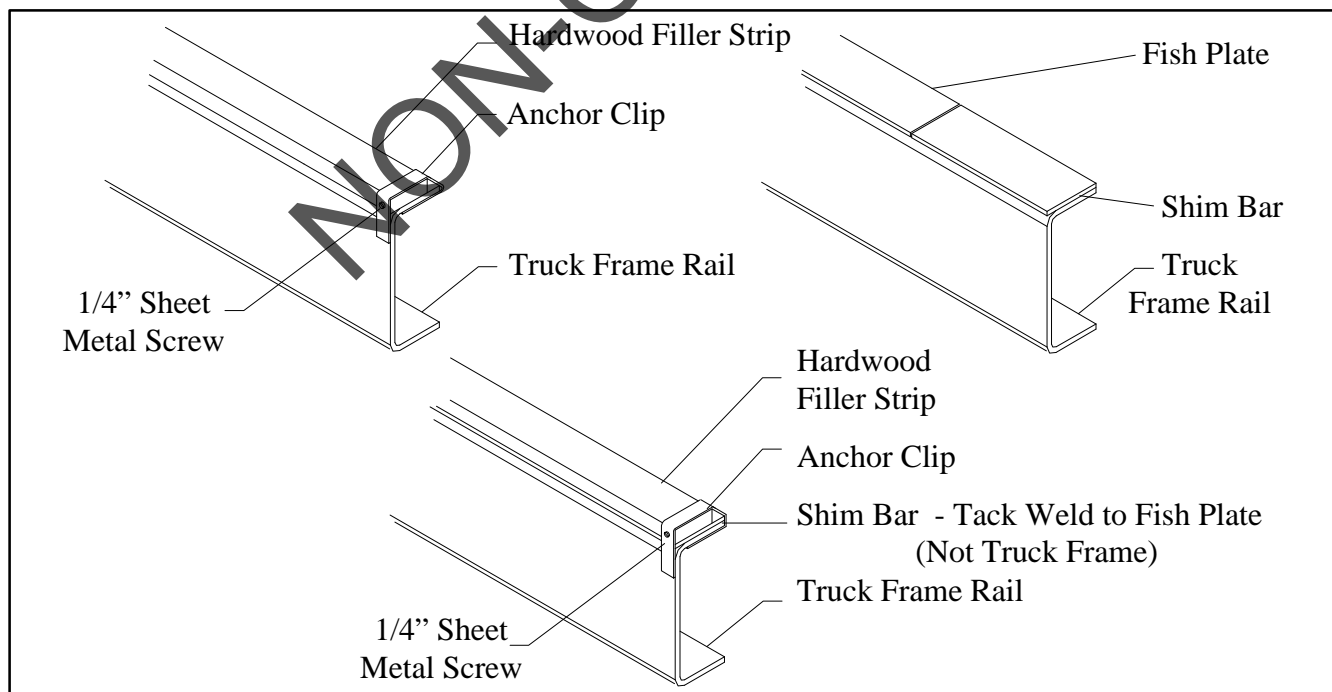

Figure 2 - Wood Filler Strips & Anchor Clips
Hardwood filler strips (not supplied with spreader) 1" by 3" must be installed the length of the frame behind the truck cab. Cut the filler strip to length and place on top of the truck frame rails. If frame has rivets in top flange, strike directly above each rivet head with a heavy hammer to mark the position of the rivet. Remove the filler strips and counterbore for the rivet head clearance. Replace the filler strips and hold them in place by bending anchor clips as shown in Figure 2. If the truck frame has fish plates on the top flange, it will be necessary to provide a level top surface by adding steel shim bars or strips of the same thickness as the fish plates and as wide as the frame channel top flange. These shim bars or strips must be drilled out to clear any rivet or bolt heads. **DO NOT WELD** these bars or strips to the truck frame, to do so may void truck warranty. Place the wood filler strips on top of them and secure both steel shims and wood filler strips by means of bending the anchor clips around them and the frame top flange. Each steel shim bar or strip and each separate wood filler strip should have three (3) anchor clips. Locate anchor clips between spreader body cross sills. Secure each anchor clip by driving a 1/4" sheet metal screw through clip into wood filler strip as shown in Figure 2.